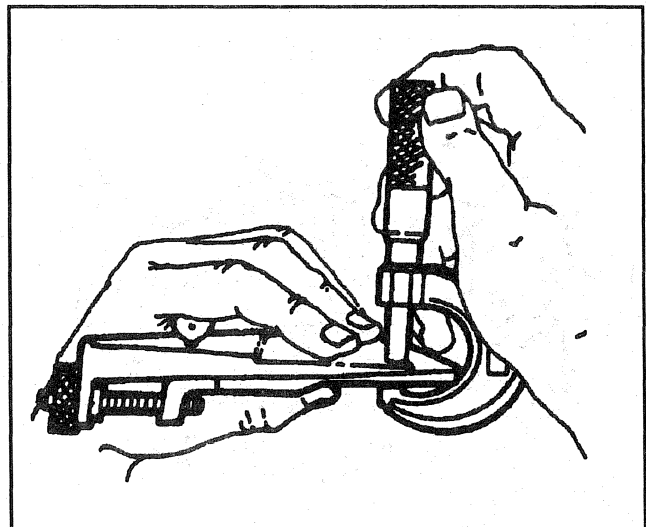

Figure 23—Measuring the Gage Plate Thickness
9. Measure J 22779 in three places using a micrometer. Average the readings (Figure 23).